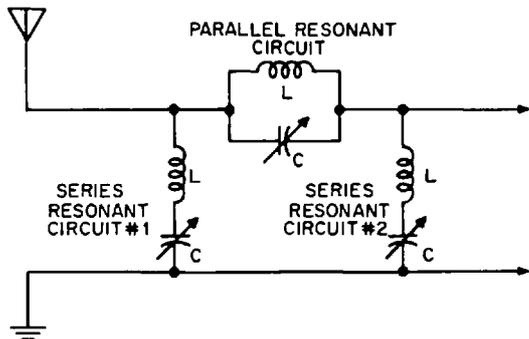

Fig. 35-33. Diagram showing how series and parallel resonant circuits are used to stop signals of one band of frequencies from passing. The band-stop filter.
**The Band-Elimination Filter.** The situation shown in Figure 35-33 is the exact opposite of the one we have just considered. If all three resonant circuits are tuned to, say, 710 kc, any current whose frequency is 710 kc is stopped from passing through and will be forced to flow to the ground. Currents of all other frequencies will pass through to the set.